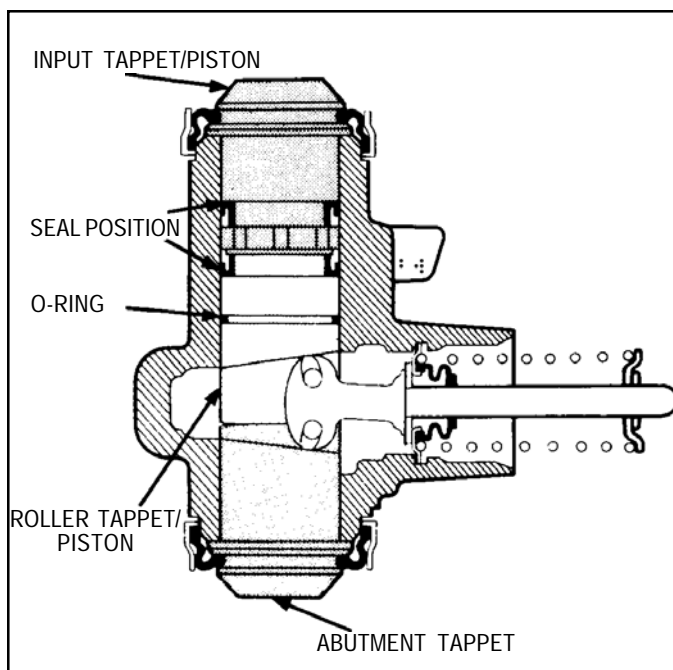

FIGURE 20 - EXPANDER WEDGE
6. Smear the o-ring with the grease supplied and fit onto the roller tappet/piston. Lubricate the piston seal with new DOT 4 brake fluid and install the seal as shown in *Figure 20*, with the lip of the seal facing outward toward the pressure side. Liberally grease the ramp face and
7. Fit the dust boot to the input tappet/piston, lubricate the piston seal with new DOT 4 brake fluid and install the seal onto the piston with the lip facing inward, *Figure 20*. Grease the inside of the dust boot with the grease supplied and install the input tappet/piston assembly into the housing bore until it rests on the roller tappet/piston. Fit the dust boot to the end of the housing.